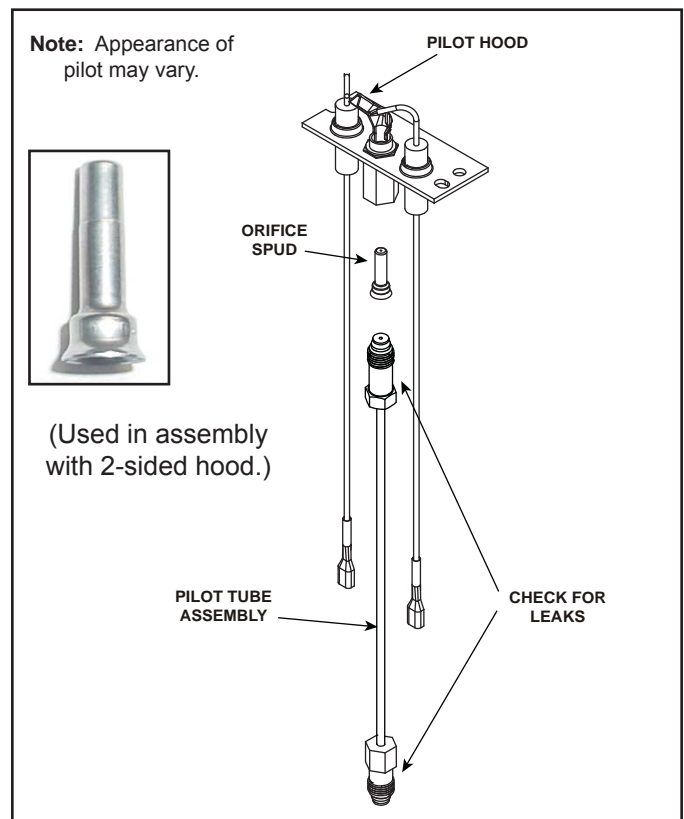

Figure 9. Pilot Orifice Installation
13. **FOR LP APPLIANCES ONLY:** Unscrew the pilot tube fitting on the new pilot and replace the orifice spud with the similar one included in the conversion kit. See Figure 9.
23. Use a commercially available, noncorrosive leak check solution to test for leaks around the pilot. Be sure to rinse off all leak check solution following testing. See Figure 9 for leak check points. Extinguish the pilot.